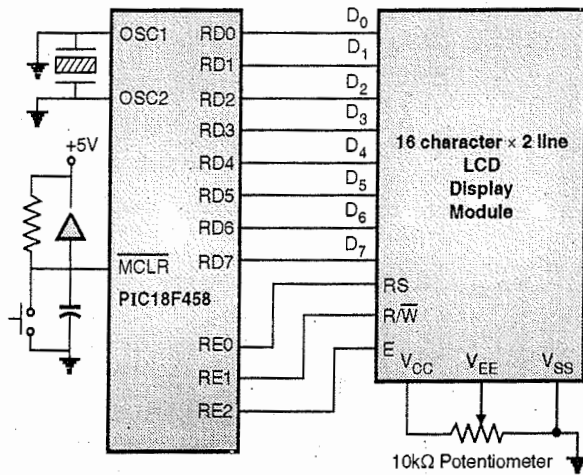

Fig. P. 10.6.4 : Interfacing 16 × 2 LCD to PIC18
**Soln. :** Fig. P. 10.6.4 shows the interfacing of a 16 character  $\times$  2 line LCD module with the PIC microcontroller. The data lines are connected to Port